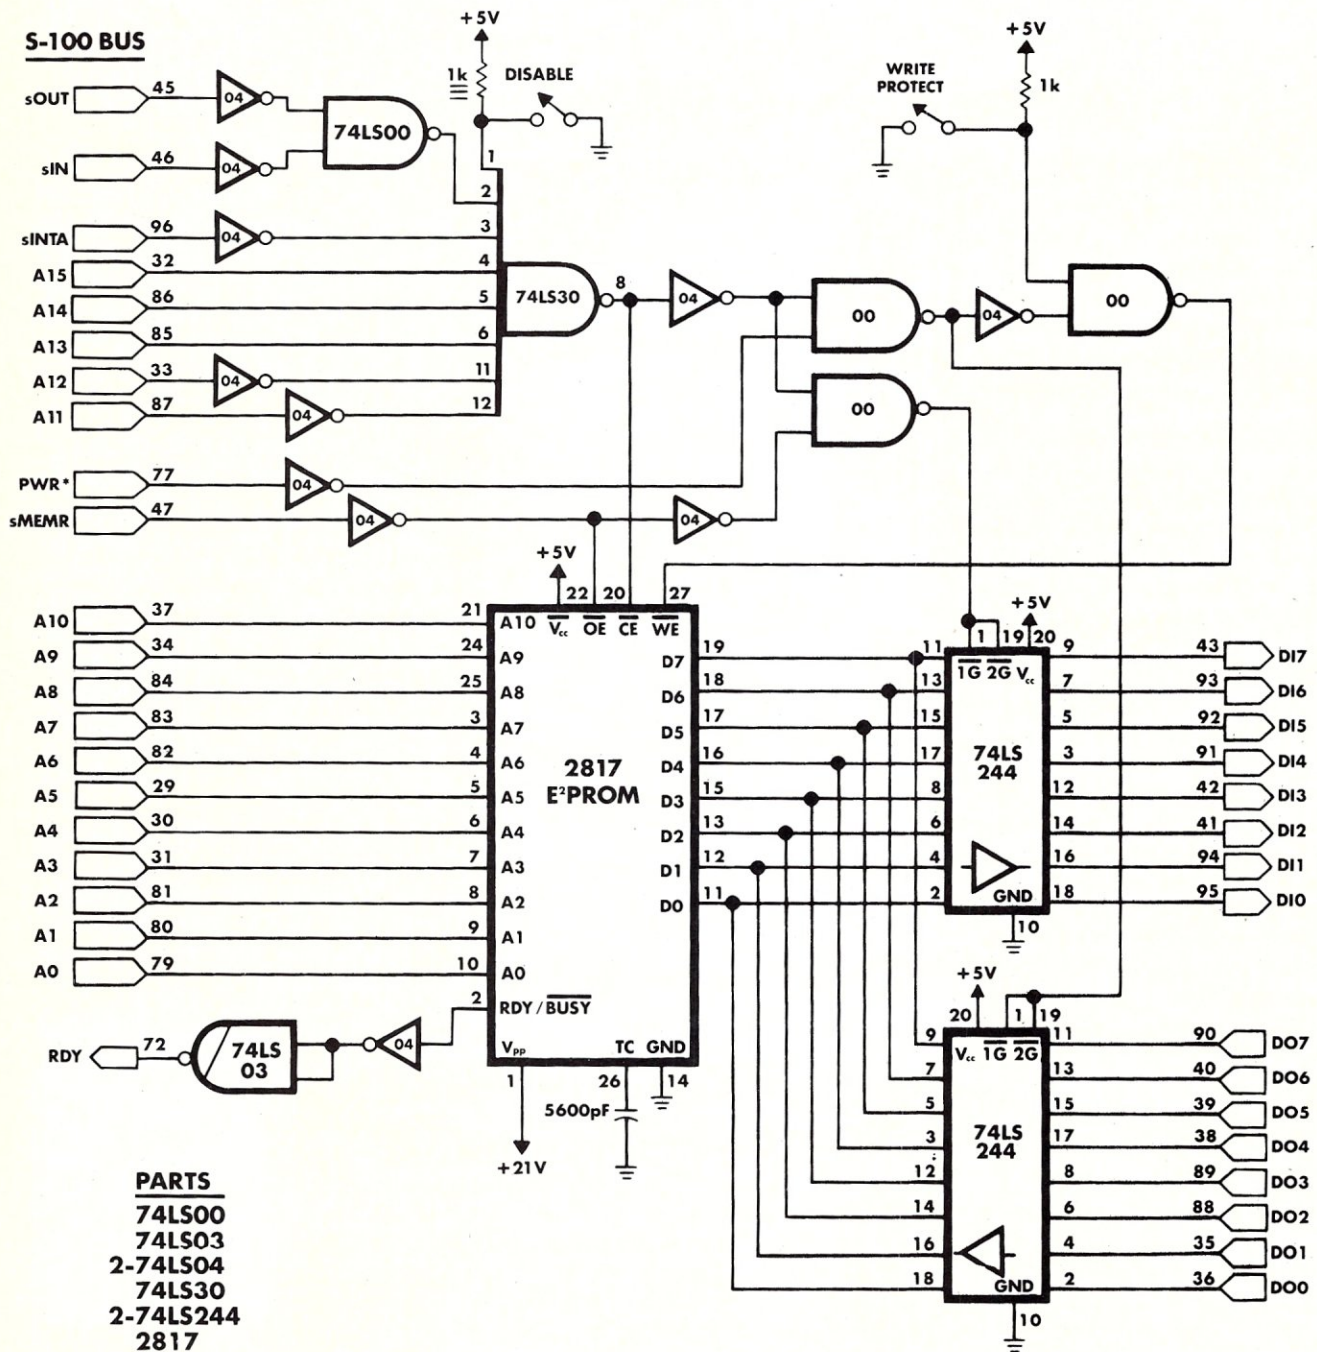

Figure 1. S-100 E2PROM board circuit
The circuitry for the S-100 E2PROM is shown in Figure 1. The +21 volt supply is generated from the +8 volt supply using a Fairchild 78S40 switching regulator IC and is shown in Figure 2. This circuit is a variation on a similar circuit shown by Steve Ciarcia in *Byte* magazine (November 1981, page 43). Note that the inductor is a toroid-shaped coil wound on a ferrite core. The instructions for winding the inductor are given in Steve's article. The 78S40 and inductor core and bobbins are available from MicroMint Inc., 917 Midway, Woodmere, NY 11598 for \$11.50. The 25 kilohm potentiometer should be adjusted so that the output is exactly 21 volts. Some adjustment in component values (particularly the inductor) may be necessary to compensate for variations in component tolerances. An assembled and tested 5VDC-to-21VDC converter that can be mounted on an S-100 card is also available for \$15 from Elpac Power Systems, 3131 S. Standard Ave., Santa Ana, CA 92705; (714) 479-4440.